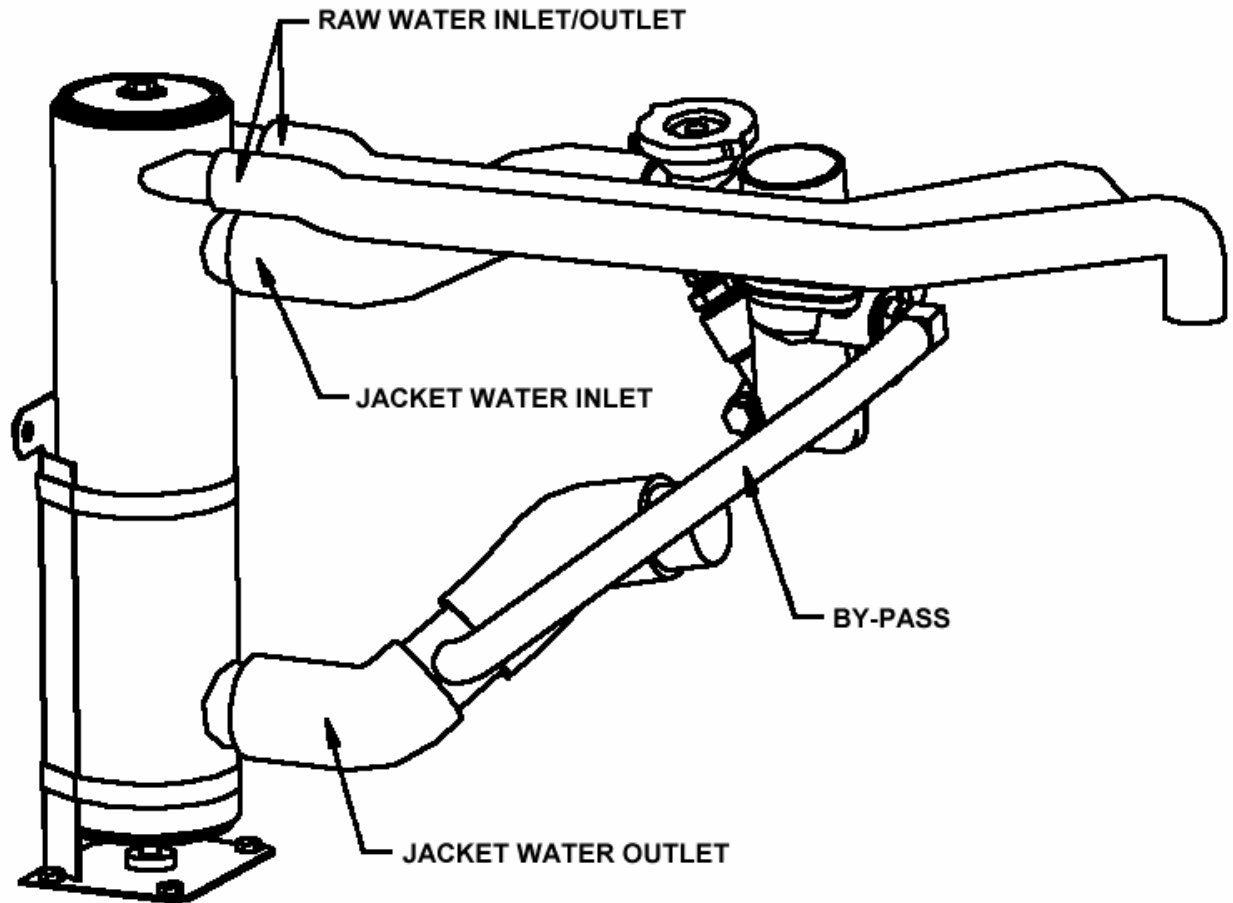

Figure 1
13. Using the supplied hoses, couplings, and clamps, determine all hose routes to make sure that they do not contact any belts or fuel lines. Reference figure 1 (Page 4).